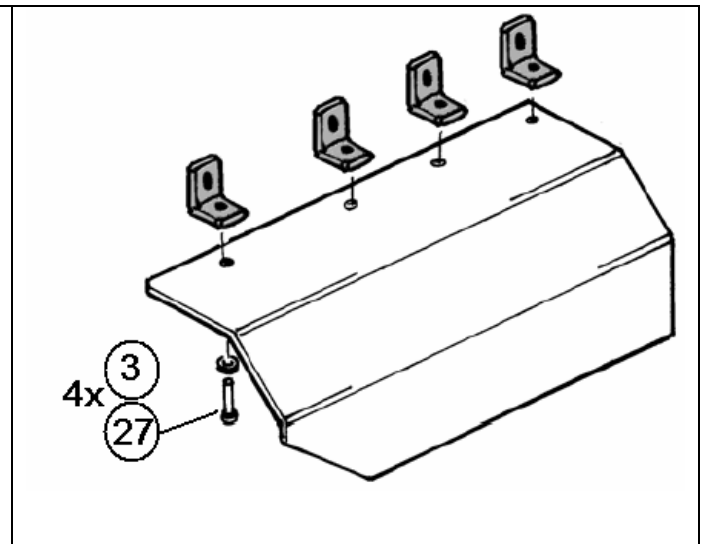

Figure 5-76. Front Cover Kit Installation (4 of 5).
3. Install four brackets # 969 to the air filter armor per Figure 5-76.